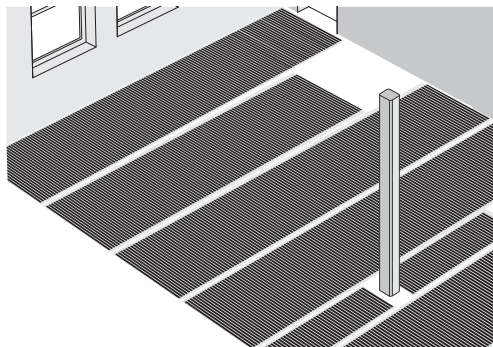

Fig.1. Room plan
When planning the underfloor heating layout (see Fig. 1), there are guidelines that must
- The connection point of the thermostat and location of floor sensor must be determined and included in the room plan (see Fig. 1 as example).